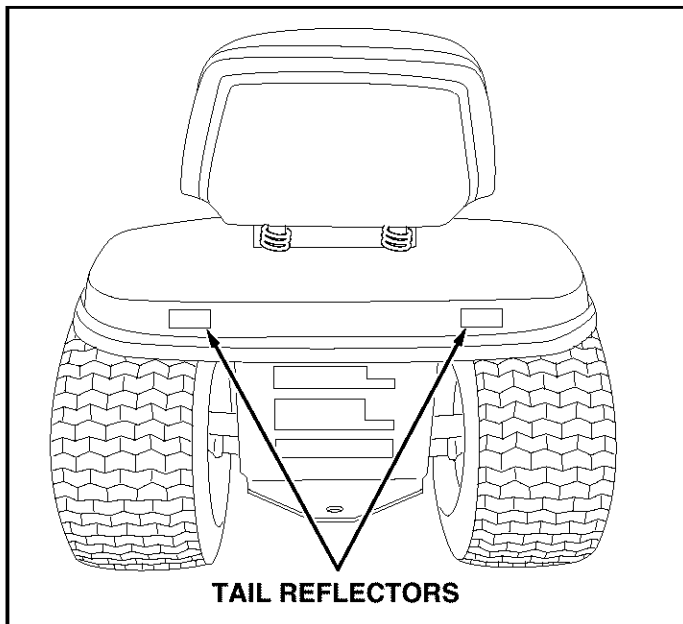

FIGURE 36
- If your tractor is not equipped with rear reflectors, assemble the tail reflectors to the rear fender. Place the reflectors as close to the bottom of the fender and as far apart as the shape of the fender will allow. See figure 36.